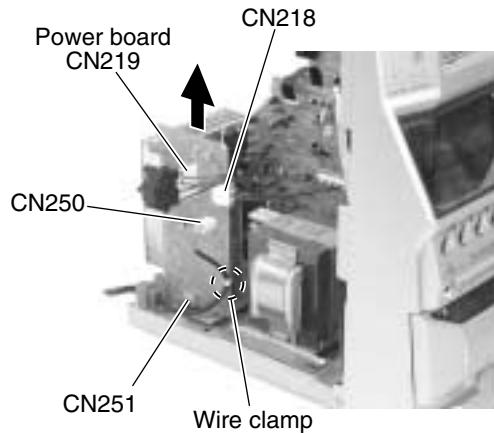

Fig.20
■ Removing the power board (See Fig.20)